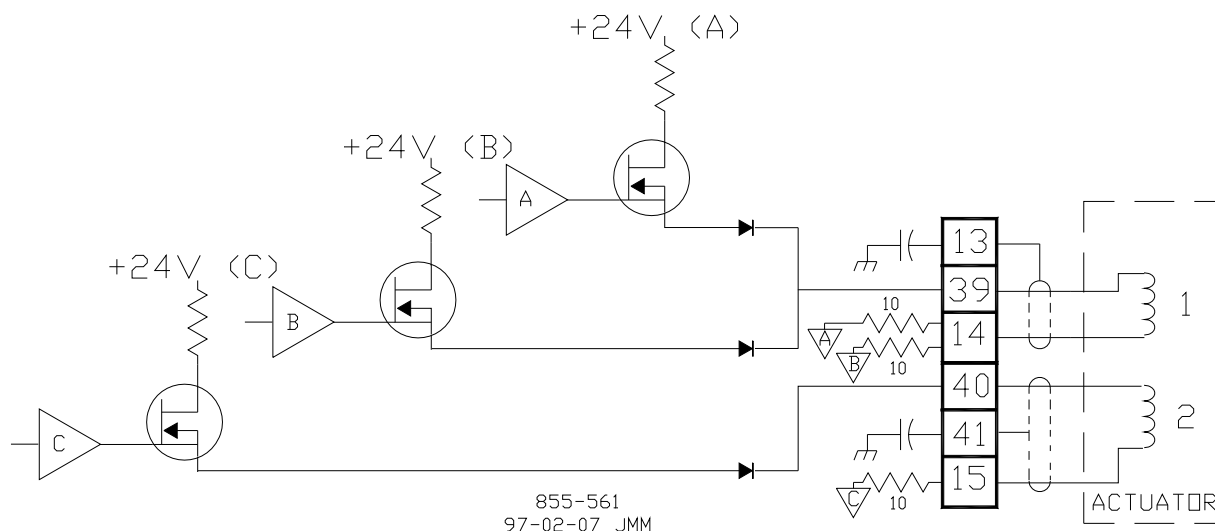

Figure 4-12. Example Dual Coil Actuator Wiring Diagram
- Refer to Table 4-2 and Figures 4-12, 4-12a, 4-12b and **Appendix A** for Actuator Output FTM terminal assignments.
2. Use the graph below (Figures 4-12, 4-13, or 4-14) which corresponds to the circuit's voltage level to determine if the voltage developed across the load (due to the leakage current) is lower than the load's drop-out voltage level.